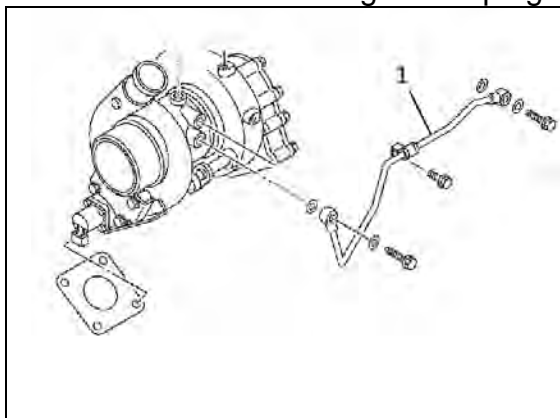

Figure 5
5. Disconnect the water feed pipe (see Figure 5).